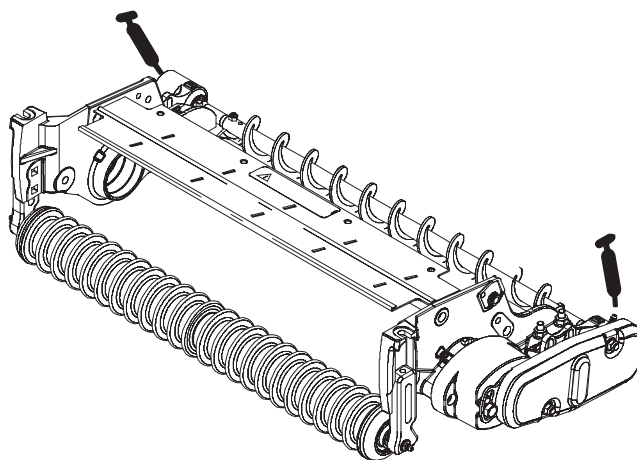

Figure 17
23. Lubricate the grease fittings on each of the roller brush bearing housings and on the remainder of the cutting unit with No. 2 General Purpose Lithium Base Grease (Fig. 17). Wipe off any excess grease, specifically around the excluder seals.